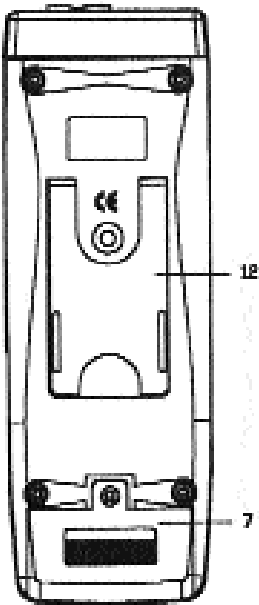

Fig. 2
- 2) Slide the " Battery Cover " (3-7, Fig. 2) away from the instrument and remove the battery.